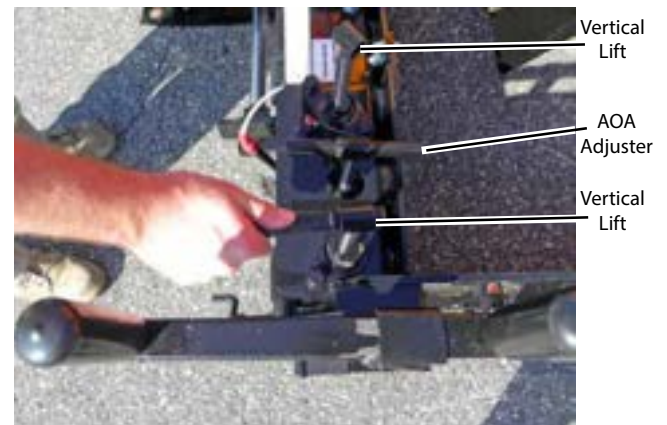

Figure 4-72. One-Foot Screed Extension
4. When both are installed, set wearplates flat with the main extension using the vertical lift adjusters and AOA adjuster. **(Figure 4-72)**